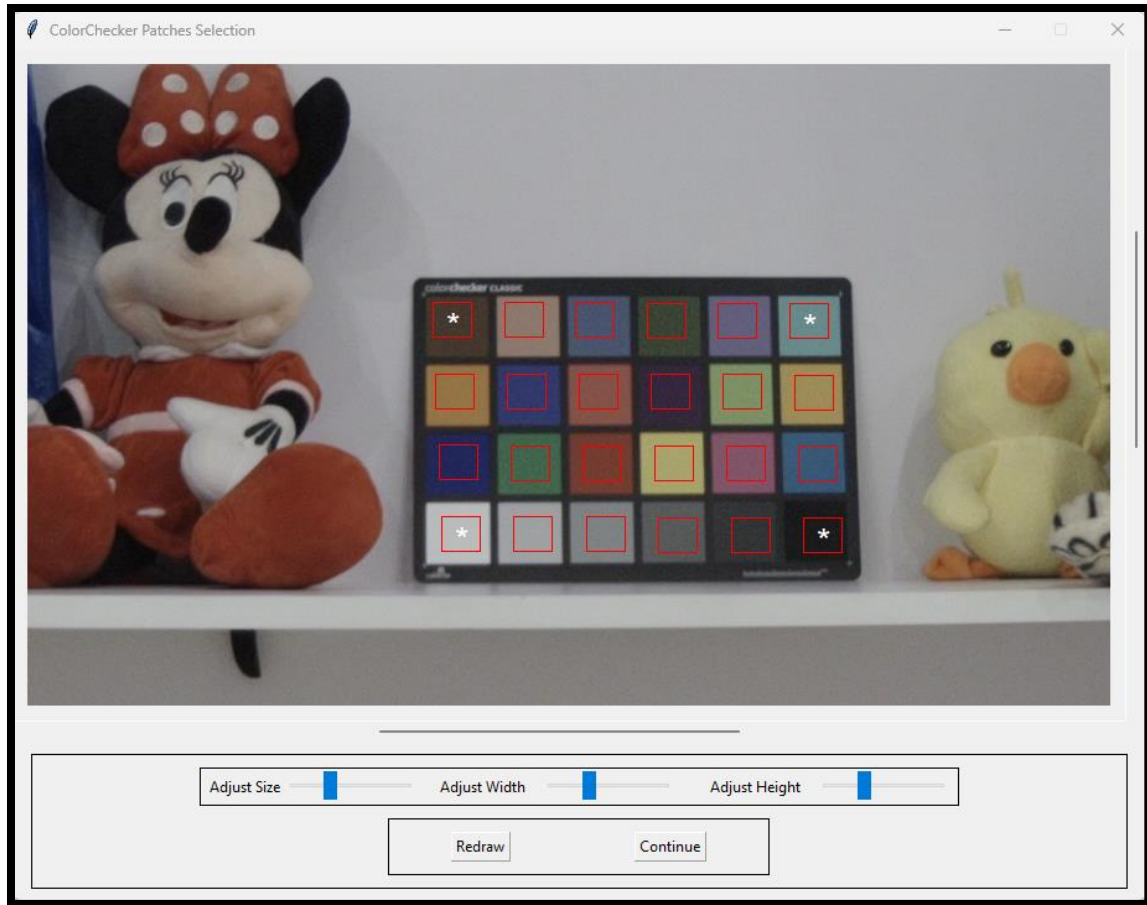

Figure 9: Zoom in to locate ColorChecker correctly and adjusting drawing on it.
- Zoom In/Out:** Users can zoom in or out of the image using the mouse scroll wheel, and utilize the left and bottom scrollbars to navigate to specific regions of interest within the image. This functionality allows for clear and precise visualization of the ColorChecker present in the image as depicted in Figure 9.